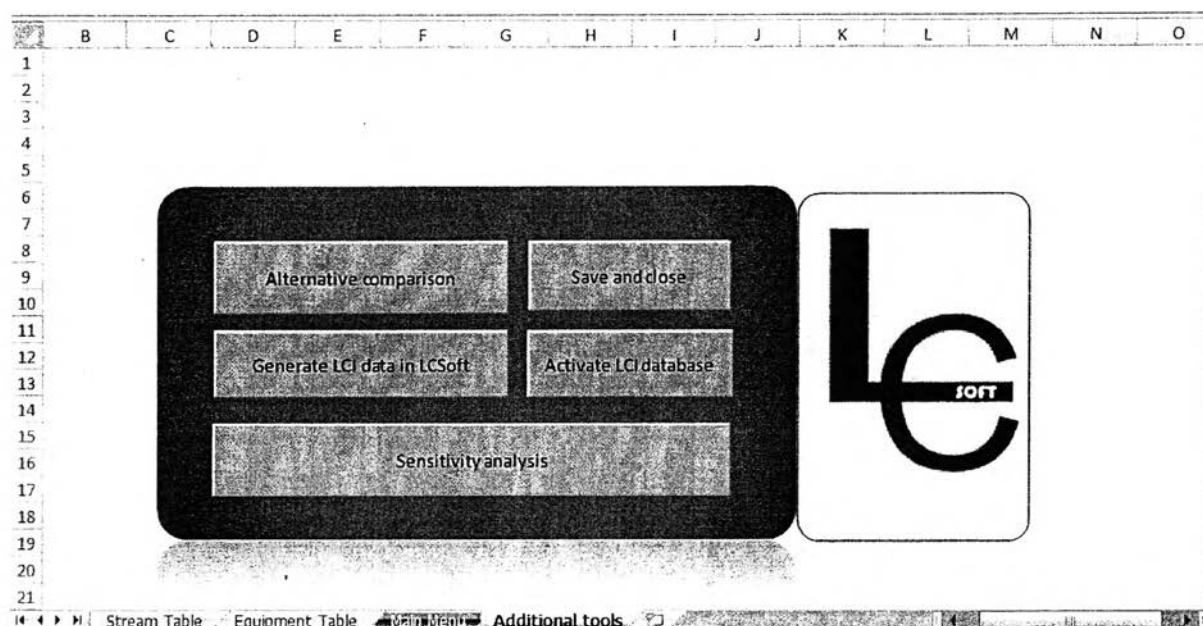
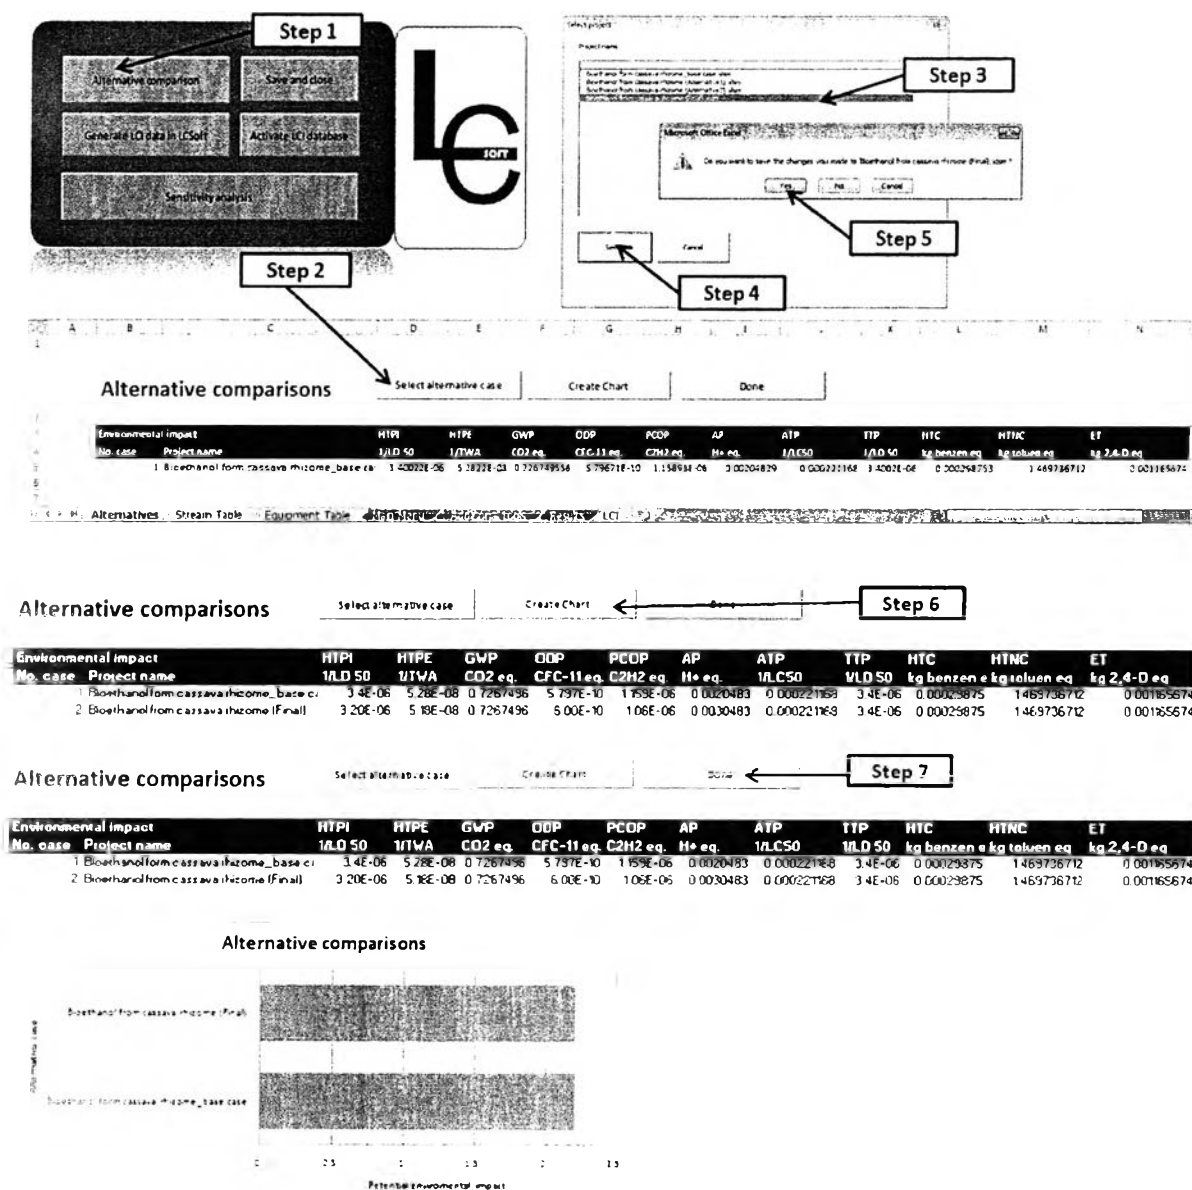

Figure A.35 Additional tools page in LCSOFT
Figure A.36 Alternative comparison page in LCSOft
LCSOft provides 3 additional tools in “Additional tools” page (Figure A.35) for special application as described below: (i) **Alternative comparison** is for comparison LCA results from different design cases (alternatives). (ii) **Sensitivity analysis** is the study of how Environmental impacts and energy consumption will change as a result of variation in raw materials and energy sources used in the process. (iii) **Generate LCI data in LCSOft** is for adding new LCI data which is specific for the process, this LCI data will be stored in the extended LCSOft LCI database.
Step 1: Click “Alternative comparison” button in “Additional tools” page (Figure A.35), the “Alternatives” page will appear as shown in Figure A.36. The first row of the alternative case is the LCA results of this project which is “Bioethanol from cassava rhizome_base case”. Step 2: Click on “Select alternative case” button. Step 3: Select project to analyze. Step 4: Click “Select” button. Step 5: Click “Yes” button. Do step 2-5 to select more alternatives. Step 6: When finish selection of alternatives, click “Create Chart” button. Step 7: Click “Done” to go back to “Main menu” page.